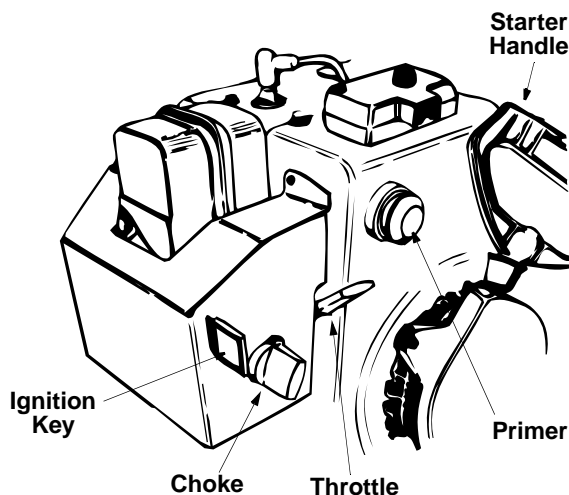

Figure 21
The throttle control is located on the engine. It regulates the speed of the engine. See Figure 21
4. Move throttle control up to FAST position. Insert ignition key into slot. See Figure 21. Be certain it snaps into place. Do not turn key.
2. Move throttle control up to FAST position. Insert ignition key into slot. Refer to Figure 21. Be certain it snaps into place. **Do not** turn key.
4. Push primer button two or three times. Refer to Figure 21. If engine is warm, push primer button once only.
5. Grasp starter handle (refer to Figure 21) and pull rope out slowly, until it pulls slightly harder. Let rope rewind slowly.